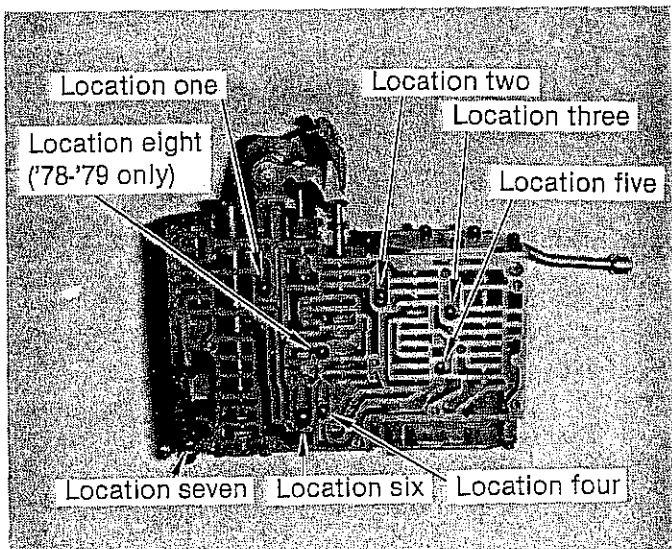

FIGURE 41
**STEP 14.** Lay casting in front of you and install steel check balls as follows: (See Fig. 41)